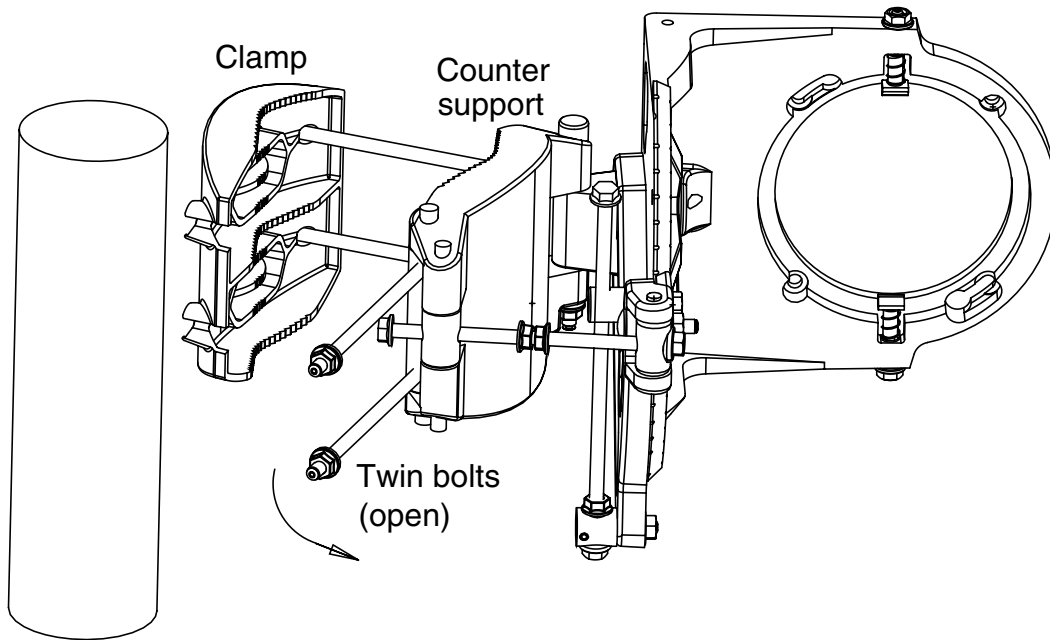

Figure 3. Mounting the alignment unit on a pole
2. Open the M8 nuts of the mast bolts and swing open the twin bolts (see Figure 3).